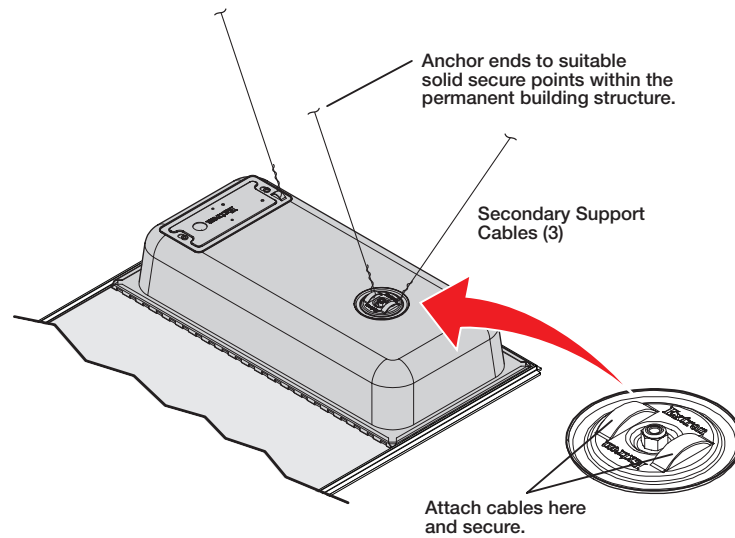

Figure 35. Attaching Secondary Support Lines
- 12. Attach secondary support lines** — If required, attach all of the secondary support lines as shown in figure 35.